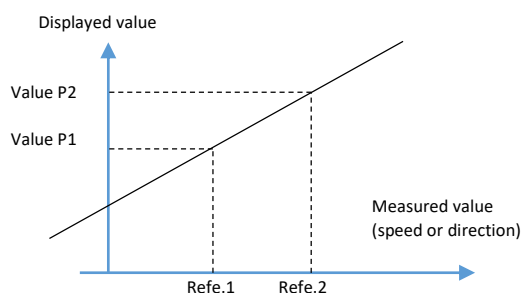

Figure 10: point calibration
- Thus you have linear relation between displayed (or output value) and input signal As show in fig 10.